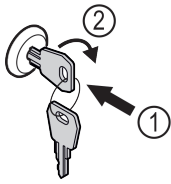

Fig. 95 Example illustration
- ▶ Insert key Fig. 95 (1).
- ▶ Turn key clockwise by 90° Fig. 95 (2).